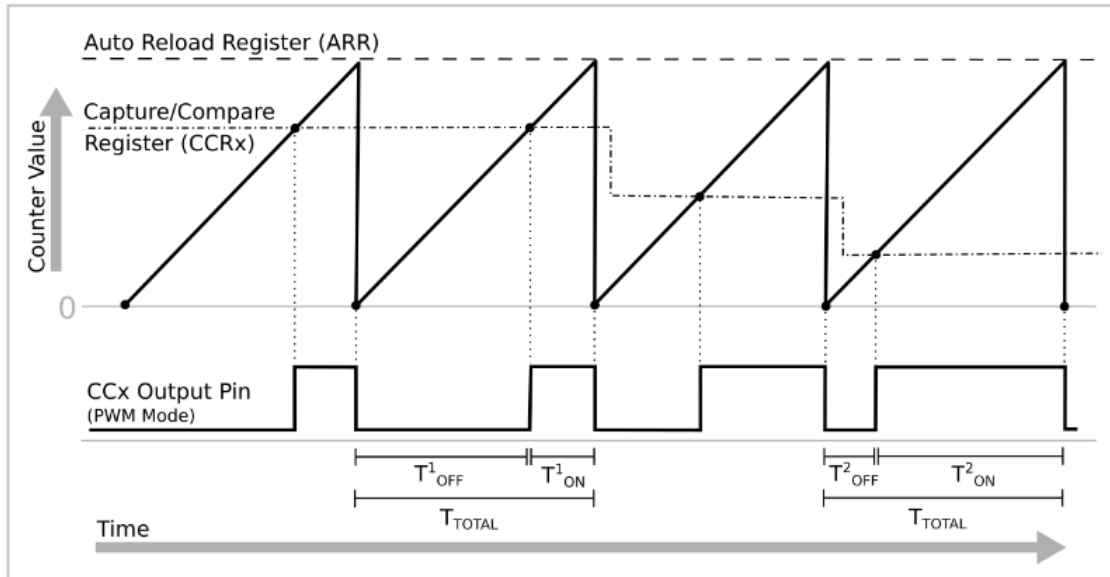

Figure 3.6: Edge-aligned PWM mode and output pin state.
7. What PWM mode is shown in figure 3.6 of the lab manual (PWM mode 1 or 2)?